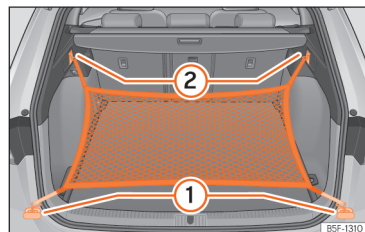

Fig. 190 In the luggage compartment: rings **1** and hooks **2** for attaching the net bag.
- Secure the short net hooks to the fastening rings »» Fig. 190 ① »» ⚠. The bag zip should be facing upwards.
- Secure the straps in the bag hooks ②.